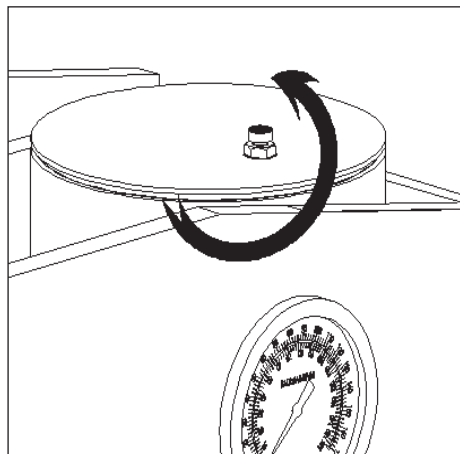

Fig. 15
- Loosen the exhaust screw by turning it anticlockwise (refer to Fig. 15).